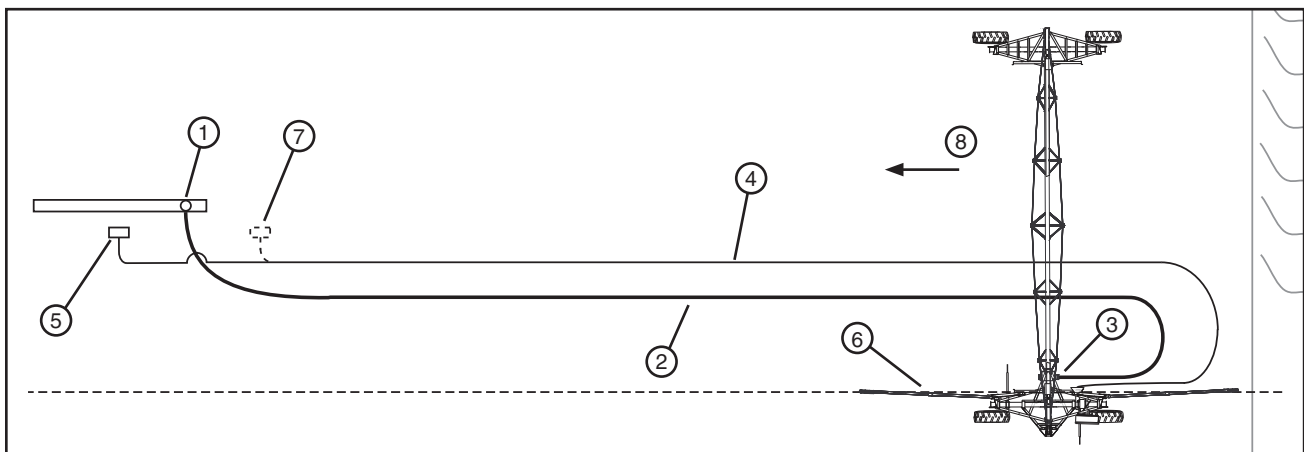

Figure 56-1 1. Shut Off Valve 3. Tee Inlet 5. Power Pedestal 7. Alternate Power Pedestal and Electric Cord Position
16. Position and connect a soft hose with pulling chains to the hard hose, then to the cart. DO NOT connect the hard hose directly to the tee inlet. See figure 56-1.
17. Connect hose to the shut off valve. See figure 56-1.